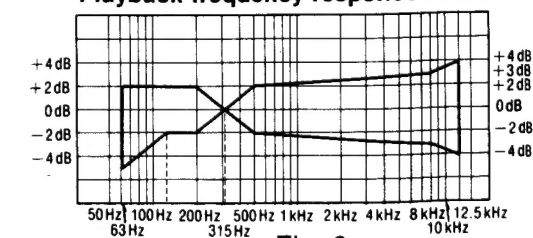

Fig. 8
<p>Ref. No. 6</p> <p>How to remove the LED P.C.B.</p> <p>Procedure 1 → 6</p> <ul style="list-style-type: none"> Push the eject button. Remove the cassette lid. Push the 4 tabs aside.  <p>Fig. 8</p>	 <p>Fig. 9</p>
- Make sure that the measured values are within the range specified in the frequency response chart. (Shown in fig. 8).